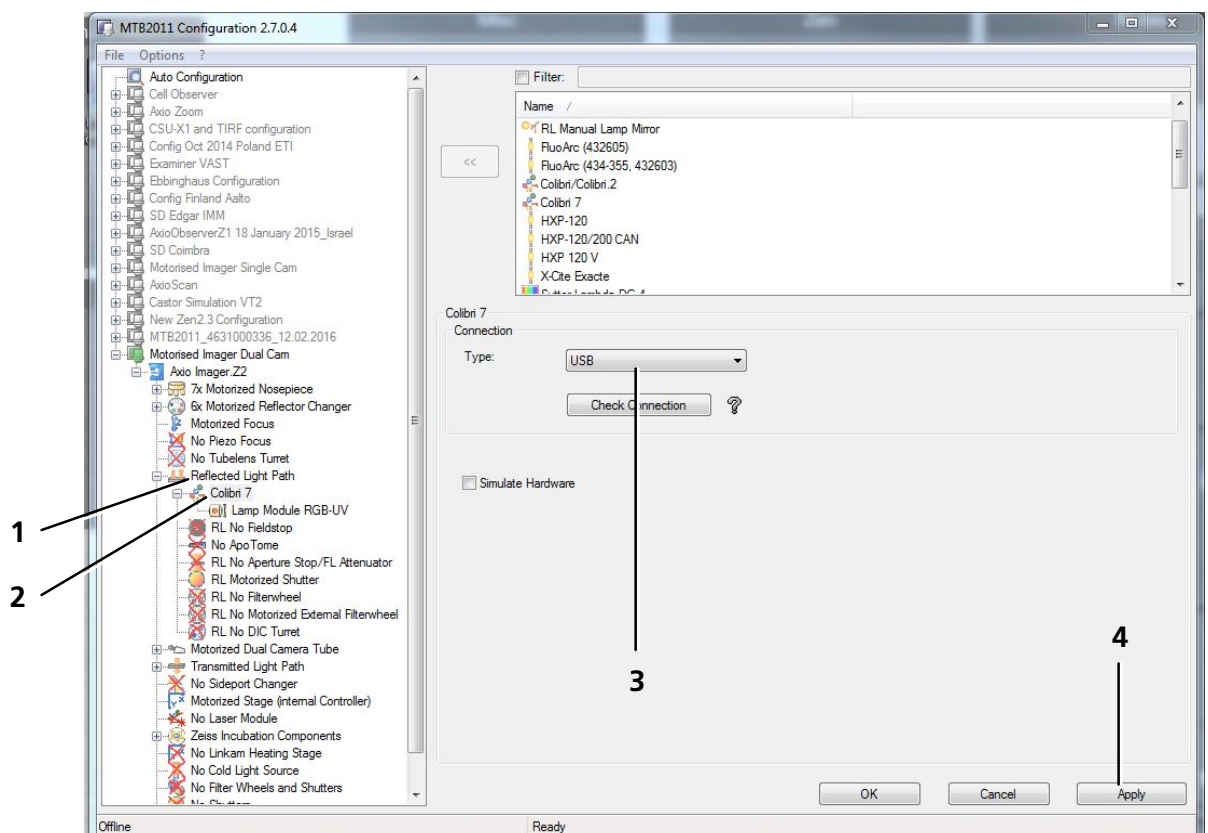

Fig. 11 MTB – Configuring the connection type
Like other fluorescence illuminators, Colibri 7 will be used in the reflected light path and will be displayed in the **Reflected Light Path** directory (Fig. 11/1) of the microscope.
- Select the **Reflected Light Path** folder (Fig. 11/1) and then **Colibri 7** (Fig. 11/2) in the window of the MTB which will be displayed upon selecting the configuration in the microscope directory (e.g. **Axio Imager.Z2**).
- Select the **USB** connection type (Fig. 11/3) in the selection list under **Colibri 7 / Connection / Type:** and click on **Check Connection**, if required.
- Then click on **Apply** (Fig. 11/4).